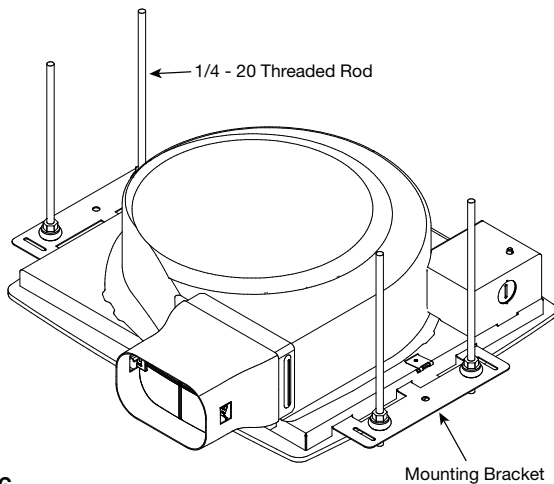

Figure 6
- a. Use Greenheck's optional vibration isolation kit. Using the fold down mounting brackets and 1/4-20 threaded rod (by others) to hang unit as shown in Figure 6.